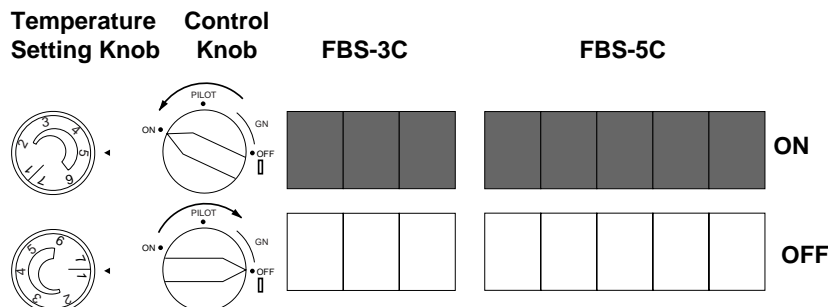

Figure 23 - Burner Patterns
- When pilot is lit, turn the control knob to ON position (see Figure 23).
- To select desired heating level, turn the temperature setting knob counterclockwise between 1 and 7 (see Figure 23).